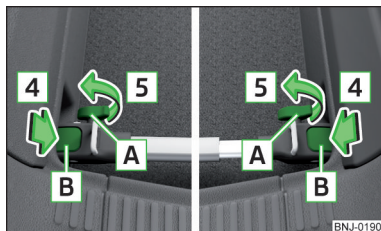

Fig. 106
- Push the mounts **B** in the direction of arrows **4** until they click» Fig. 106.